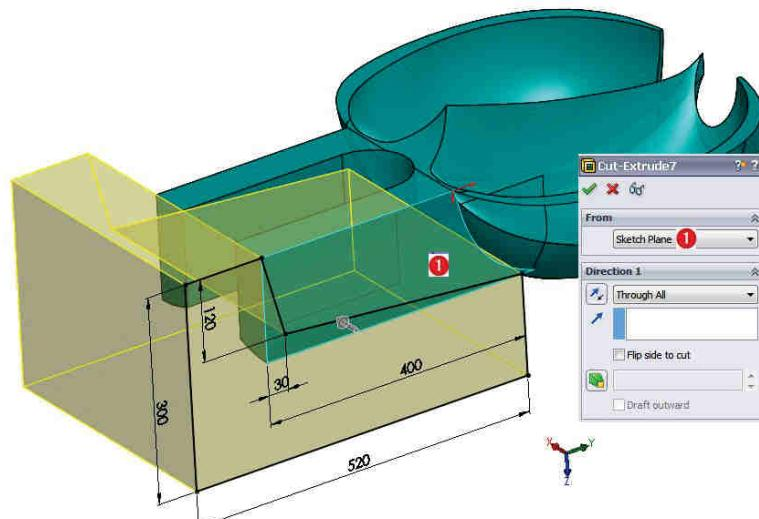

Fig. 3.20
**26 Schițare contur 300x520:** comanda Sketch- Fig. 3.20 – Selecție plan ① (față laterală furcă) / Schițare contur 300x520 /
**26 Sketching of the 300x520 contour:** the Sketch command - Fig. 3.20 – Select ① Plane (Taper Shank lateral face) / Sketch the 300x520 contour / .
**27 Creare decupare conică – Extrudare contur 300x520:** comanda Extruded Boss/Base - Fig. 3.20 – Direction 1 – Through All / .
**27 Creation of the Cutting Cone – Extrudation of the 300x520 contour:** the Extruded Boss/Base command - Fig. 3.20 – Direction 1 – Through All / .